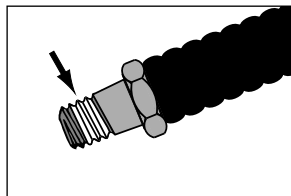

Figure 2, Thread Sealant
**Note:** In the following steps, apply 1-1/2 wraps of Teflon tape or other suitable sealant to all threaded hydraulic fittings, leaving the first complete thread free of tape or sealant as shown in Figure 2.
2. Install a 0-15,000 psi [1035 bar] pressure gauge into the 0.250-18 NPT gauge port (A).